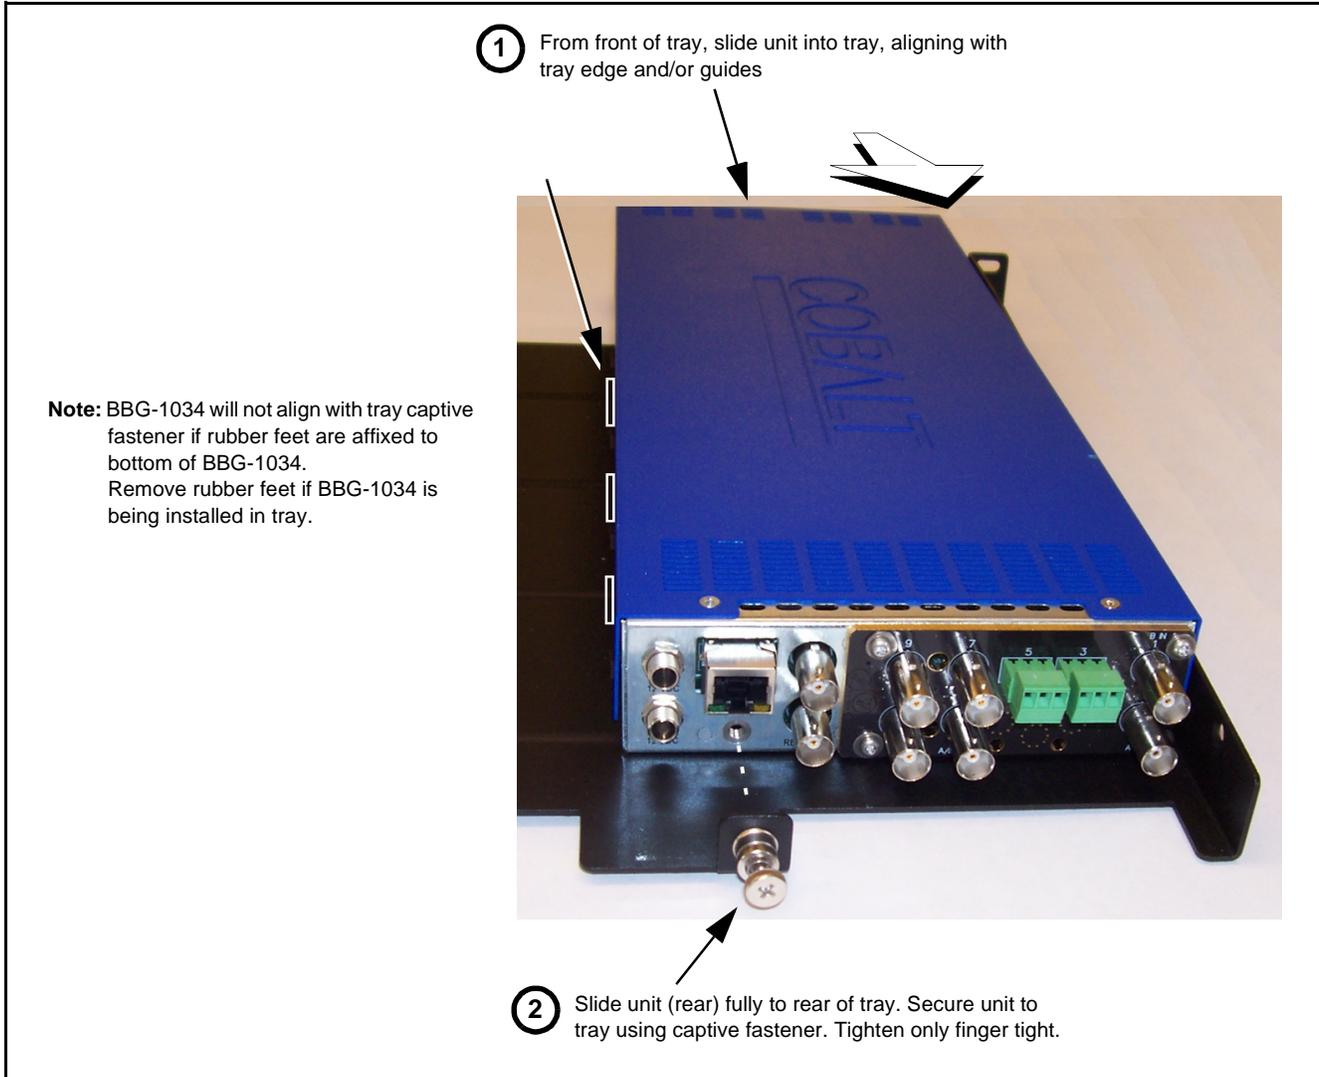

Figure 2-1 Mounting BBG-1034-AUD-PRO-DSP Using Frame Mounting Tray
1. If installing BBG-1034-AUD-PRO-DSP using optional frame Mounting Tray BBG-1000-TRAY, install BBG-1034-AUD-PRO-DSP in tray as shown in Figure 2-1.